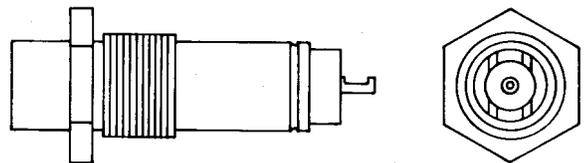

Fig. 13—614A Jack
2.13 614A: This hermetically sealed coaxial-type jack (Fig. 13) has a threaded body and a fixed front end hex flange. This jack is designed to be used with the 440A plug on one end and for soldered wire connections on the other. This jack is not for a coaxial cable connection. The insulated metal parts will withstand a 1500-volt ac breakdown test. The 614A jack is provided with a hexagonal nut for mounting and is used with the JMX-1C-L5 Coaxial System.